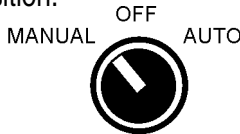

Figure 11. Manual-Off-Auto SW. (Manual Position)
2. For manual operation of the pump, place the 3-position operation switch (Figure 11) on the control box in the **MANUAL** position.